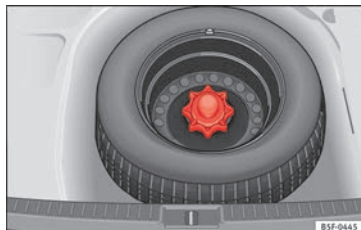

Fig. 255 Compact temporary spare wheel: raised floor panel.
- Lift and hold up the floor panel to remove the temporary spare wheel » **Fig. 255**.